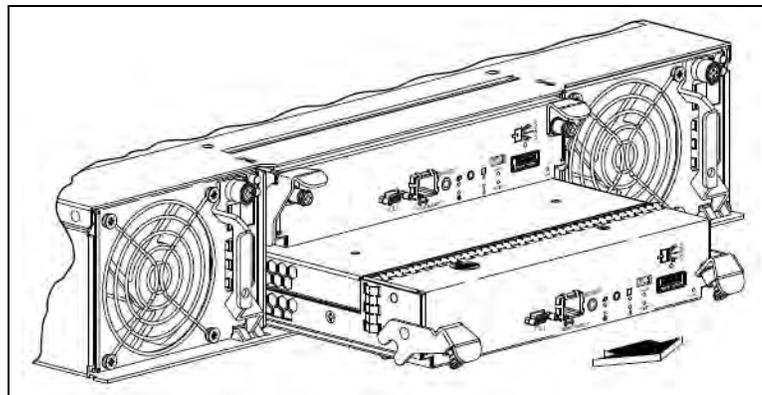

Figure 5.48 - Removing a Controller Module
5. Pull the module straight out of the enclosure (**Figure 5.48**).